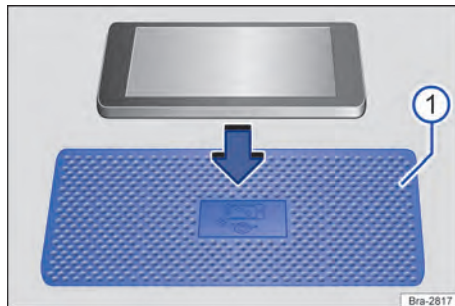

Fig. 145 Stowage area with lining mat for the wireless accessory charger (illustration).
In some vehicles, the lining mat has a telephone symbol which marks the centre of the wireless accessory charger → Fig. 145 ①. The symbol on the lining mat may look different in some vehicles.